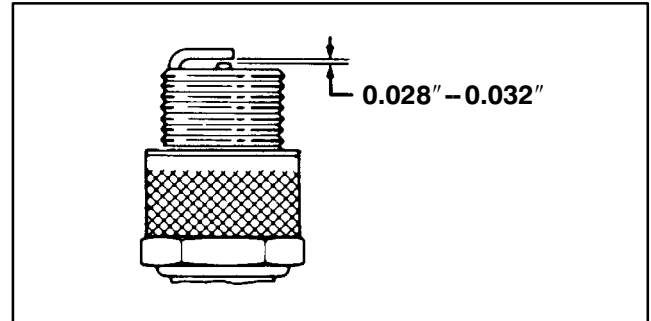

Figure 31
3. Set air gap at 0.028"–0.032" (Fig. 31). Install correctly gapped spark plug and tighten firmly to 17 ft-lb.